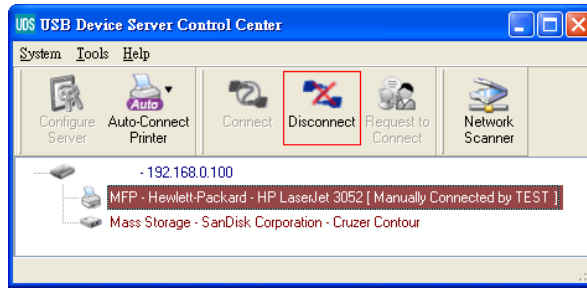

Figure 6 The Disconnect Button
- F. After you finish using the USB device, click the USB device in the Control Center and then click the “Disconnect” button to disconnect the USB device, as Fig 6. Other PCs can not “Connect” the USB device until you “Disconnect” that USB device. That is to say, only one PC is allowed to connect the USB device at the same time.